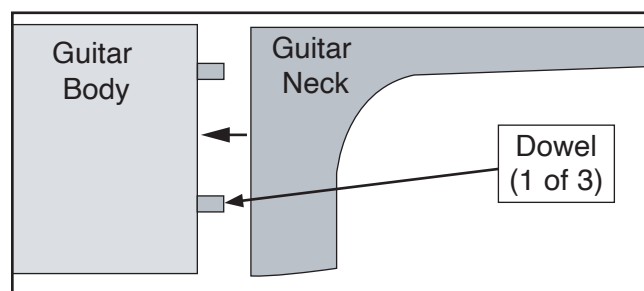

Figure 8. Dry fitting neck and body.
2. Fit dowels into dowel holes in guitar neck, and press neck into body, gently but firmly (see **Figure 8**).